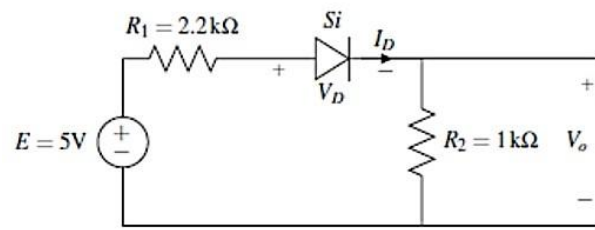

Figure 1.11: Schematic for circuit of task 4
- For the circuit shown in Figure 1.11, calculate the current through diode I_d and output voltage V_o by applying basic circuit laws and fill in Table 1.4. Use V_D (forward voltage drop across Si diode) found in Task 3. Show calculations in the box below: